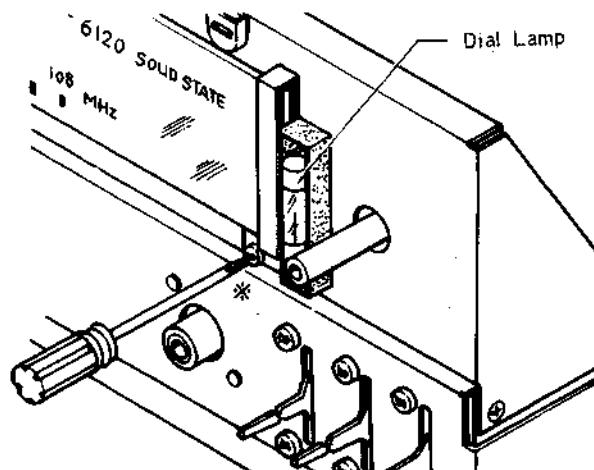

Fig. 2-8-1 Dial Glass Replacement
- (1) Remove the front panel. See Section 2-2.
- (2) Remove the screw (+RF2.6φ×5) that secures the dial glass bracket to the sub chassis as shown in Fig. 2-8-1.
- (3) Install the new dial glass.